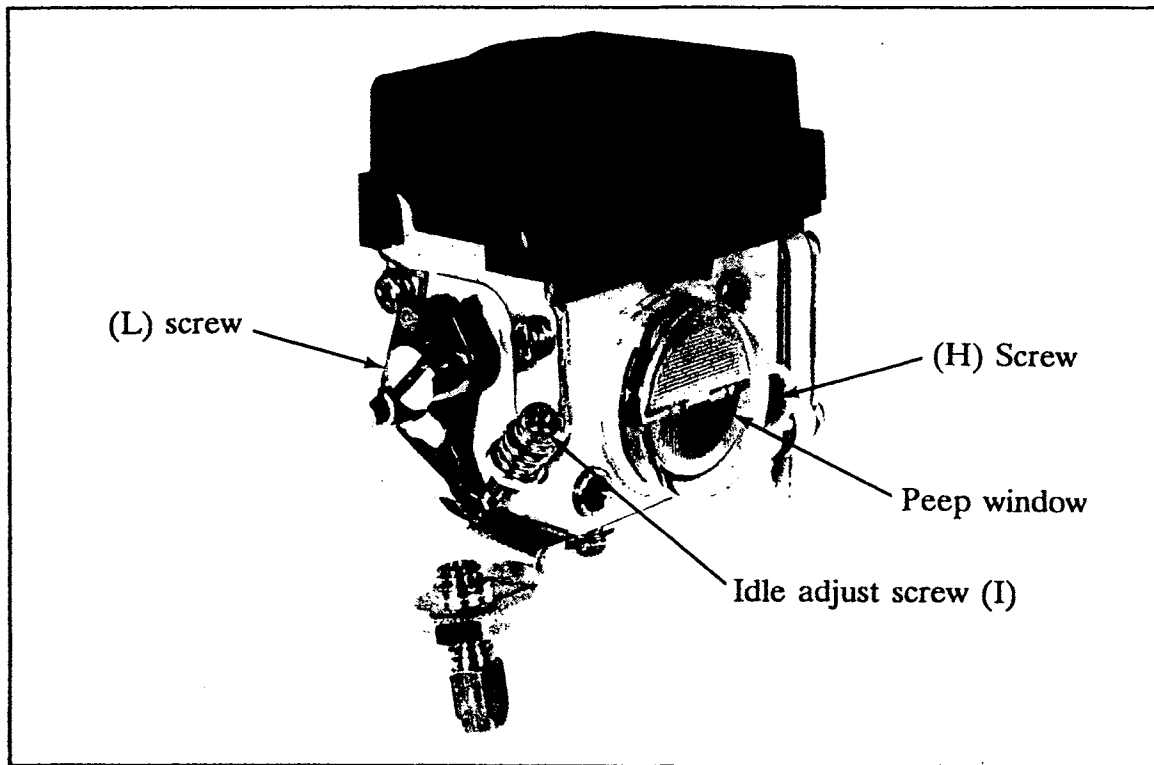

Figure 30
2. Maintenance requirements, reference Figure 30, page 58.